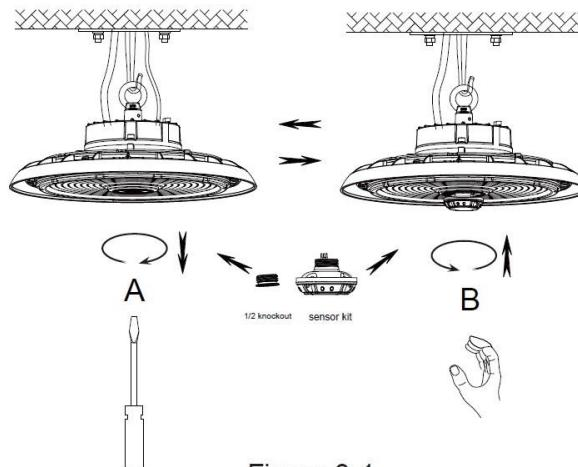

Figure 3-1
3. Default programs have been set for motion sensor and PIR prior to shipment. It needs to be re-set by remote control if you need to change the working mode. The remote control is an optional accessory. (Figure 3-1)